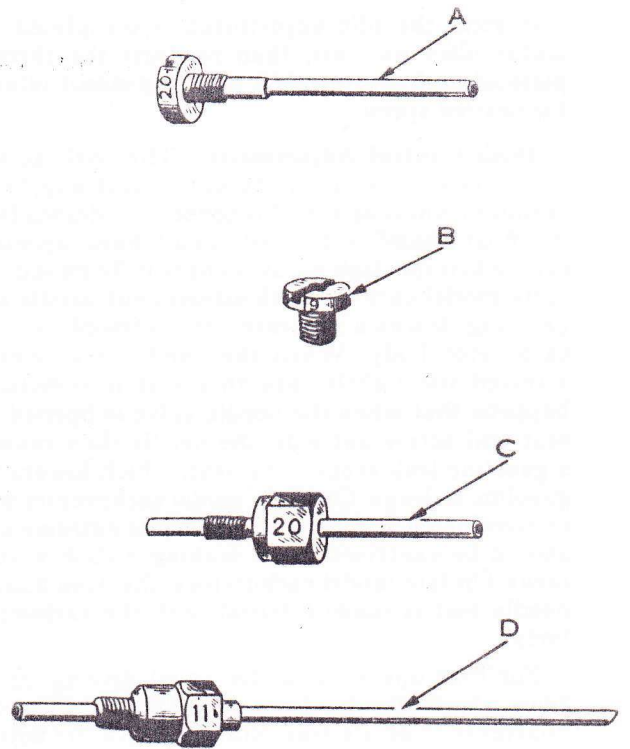

Fig. 5
Idle Jets.—A poor idling condition may be caused by an idling jet (D) Fig. 5 that is too large. The standard idling jet size for Ford Model A carburetors is No. 11; however, it may be that this jet has been drilled out or tampered with.
The second or last change in Ford carburetor parts went into effect on the 1930 Model A Fords. The changes were made in the jets as shown in Fig. 5. These jets are the only Model A carburetor jets supplied by the Ford factory and they can be satisfactorily used for service replacement of corresponding parts in carburetors used in 1928 and 1929 as well as the 1930 jobs.